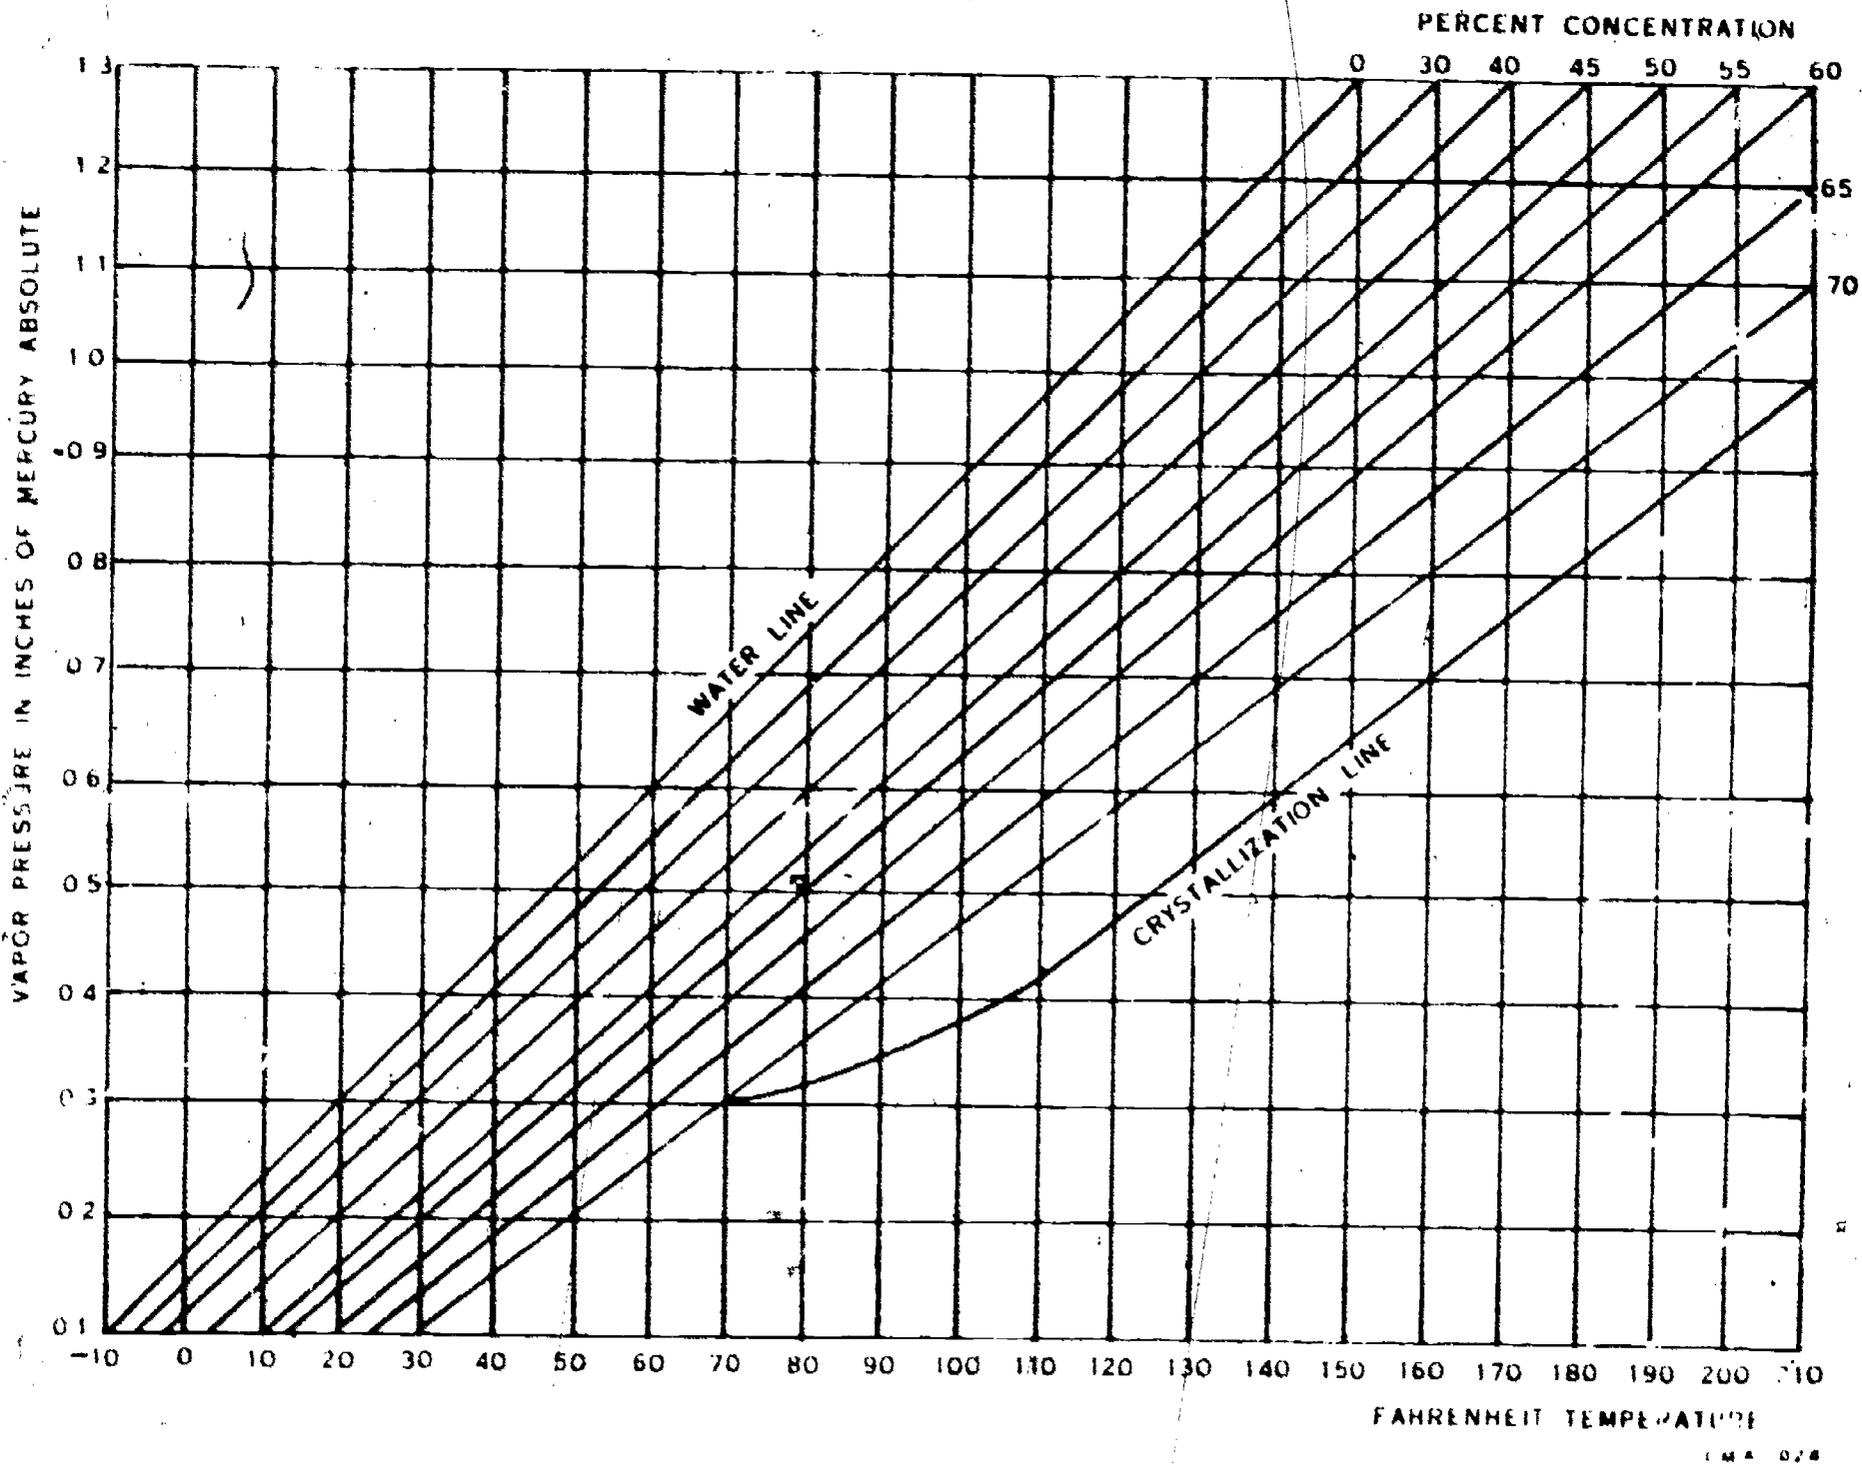

Figure 25. Lithium Bromide Solution Chart
**SOLUTION CONCENTRATION CHECK.** A common characteristic of the lithium bromide absorption air conditioner is that the lithium bromide solution will crystallize or solidify under certain conditions. To solidify or crystallize means the absorbent changes from a liquid to a solid state. Solidification will cause the unit to stop, but will not cause permanent damage to the unit. After the solution is desolidified, the unit may be placed back in operation. To desolidify you would dilute the solidified area with system liquids and, if necessary, apply heat. One method used to determine solution concentration (percent of lithium bromide to water) is as follows. We will use some figures to form an example along with the diagram in figure 25. Use 100° for the temperature of the refrigerant leaving the condenser. Follow the 100° line upward until it gets to the diagonal waterline, mark the chart at this point. Use 160° for the temperature of the solution leaving the generator. Using the mark that you have already made on the chart, go horizontally to the right until you intersect the 160° vertical line. At this point read the solution concentration from the diagonal lines, it would be 65 percent.
In this discussion of absorption machine problems we will limit the coverage to the most common areas. Crystallization (solidification) will take up the major portion of this subject since several common absorption machine problems result in the absorbent solidifying (figure 25).